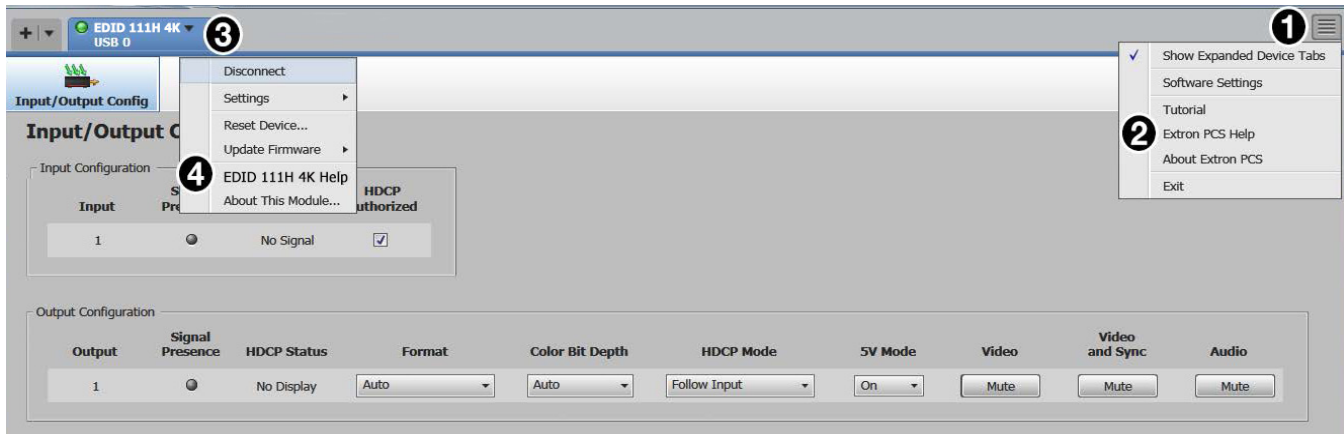

Figure 10. PCS and Device-Specific Help Files
- Click the **Device Discovery** tab (❶).
- Select the **EDID 111H 4K PLUS** row (❸) and click **Connect** (❹). The device page opens (see figure 10).
1. Click the hidden menu icon () to access a drop-down list (see figure 10, **1**).